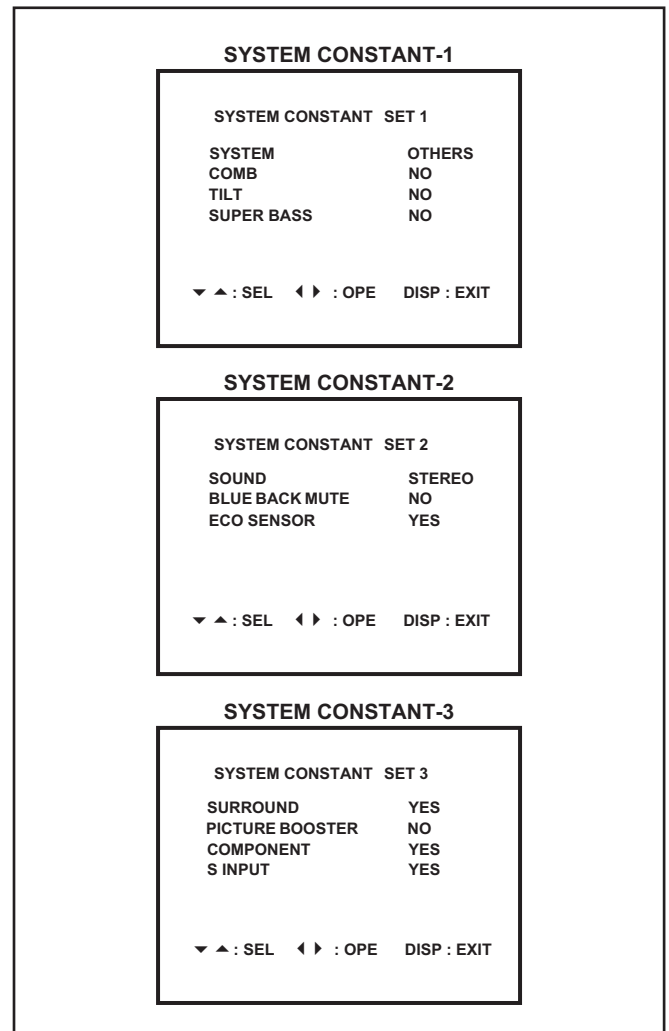

Fig.2
- (2) In the SERVICE MENU, press the [DISPLAY] key and [PICTURE MODE] key simultaneously. Then, the SYSTEM CONSTANT SET screen will be displayed.(See Fig.2.)
- (3) Check whether the setting values of the SYSTEM CONSTANT SET are the same as those indicated in Table 1.